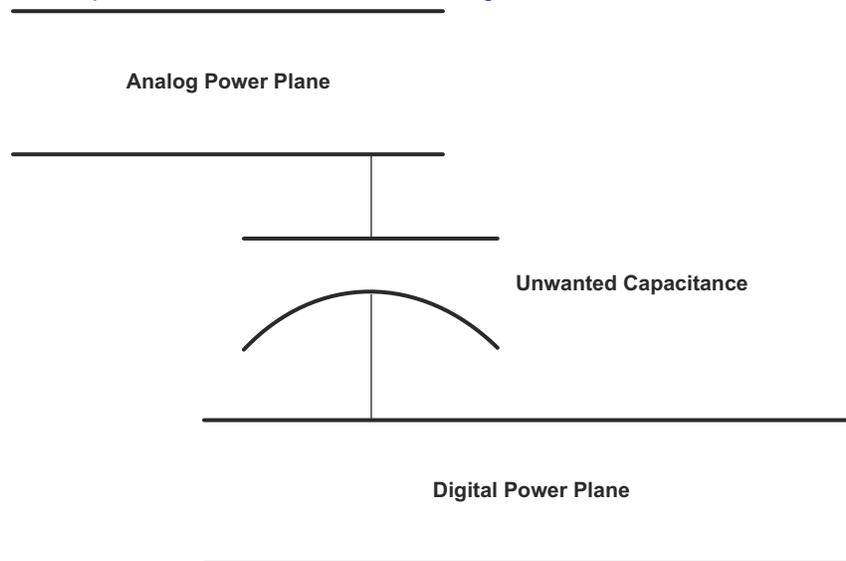

Figure 2-3. Do Not Overlap Planes
- Do not overlap planes that do not reference each other. For example, do not overlap a digital power plane with an analog power plane as this produces a capacitance between the overlapping areas that could pass RF emissions from one plane to the other, as shown in Figure 2-3.